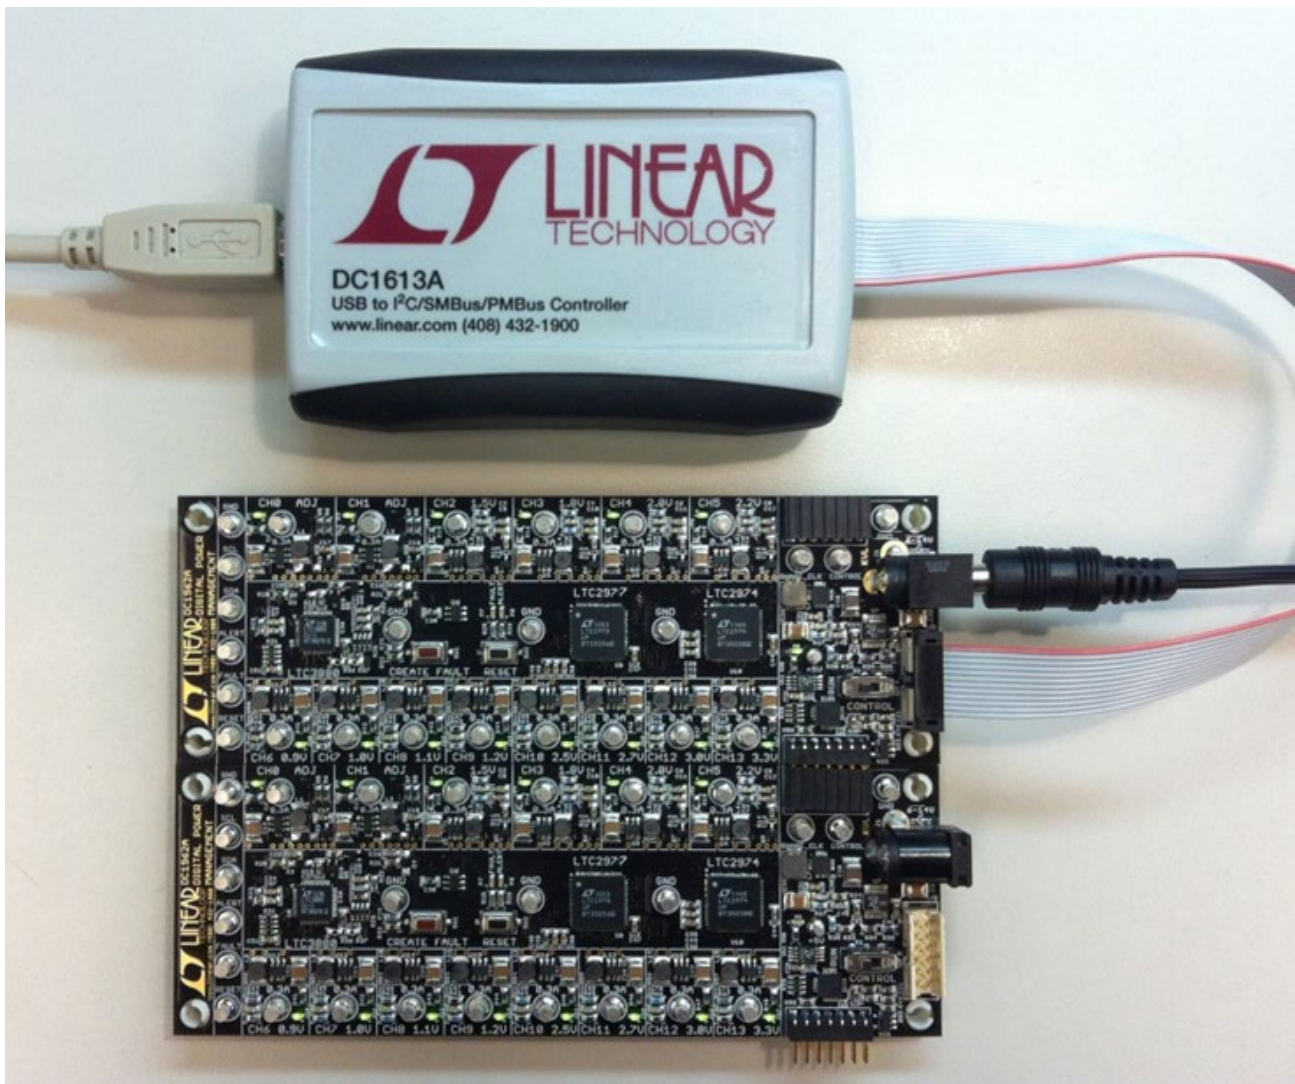

Figure 10. Array of Multiple DC1962C Demo Boards
3. Plug in the +12V V_{IN} power into one of the boards as shown in Figure 10. Only one +12V power source is allowed.